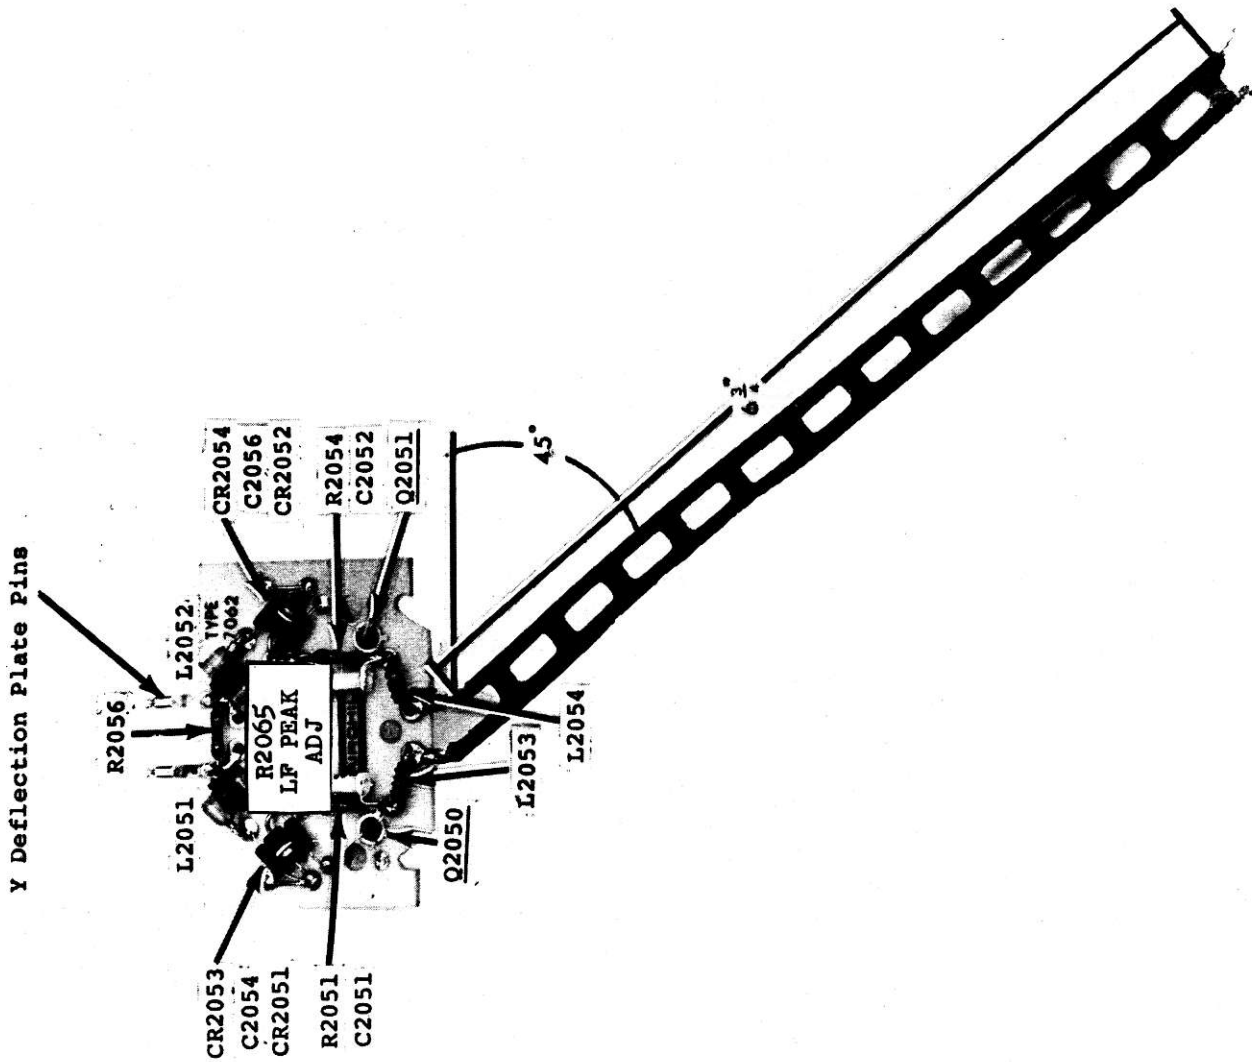

FIGURE 5. FRONT VIEW OF CRT TERMINAT J BOARD SHOWING REPLACEABLE PARTS
E. PARTS LIST (Figures 5 and 6)
E. PARTS LIST (Figures 5 and 6) concluded..